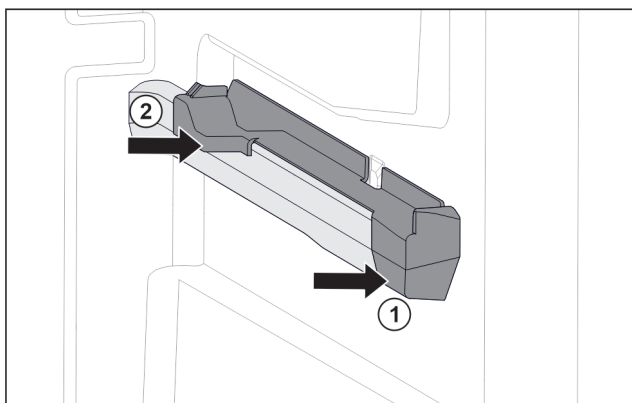

Fig. 87 Attachment on the right moulded rib
- Position attachment on moulded rib at the front. Fig. 87 (1)
- Press on attachment at the back. Fig. 87 (2)